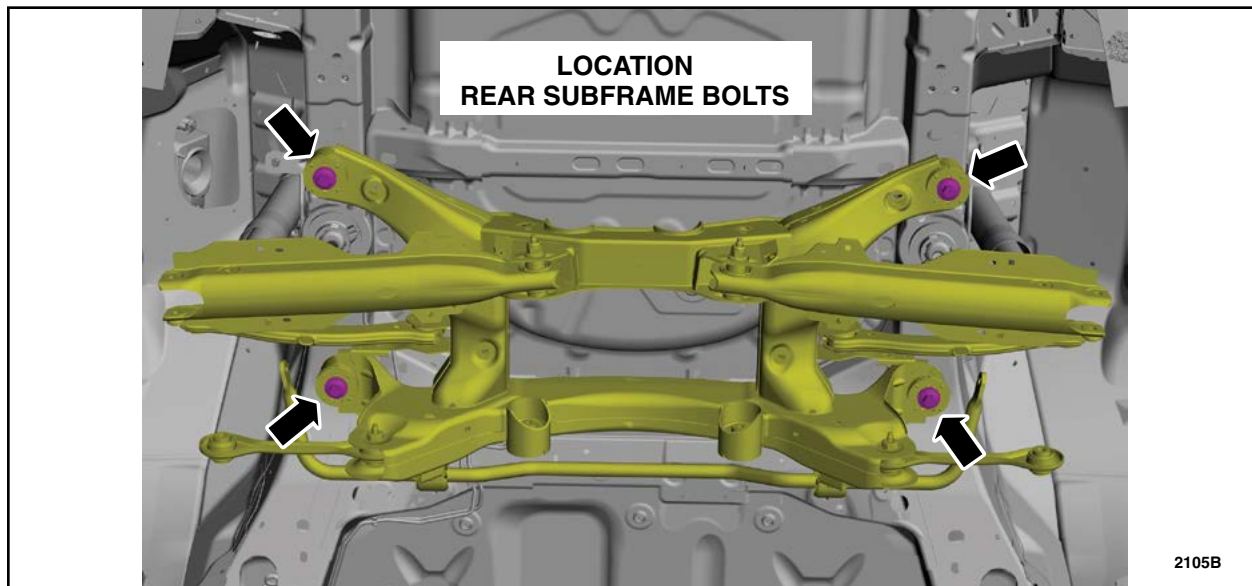

FIGURE 1
2. Are all four rear subframe bolts present? See Figure 1.